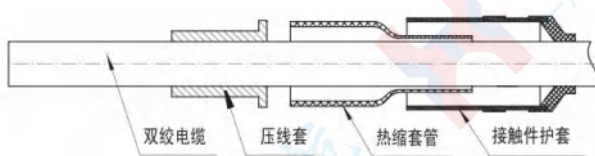

图1.2 将接触件护套和热缩套管套入电缆
- 1) Sequentially install the transparent heat shrink tube for stress relief, contact boot, and crimp sleeve (used for cable shield connection and inner core fixation) onto the cable, as shown in Figure 1.2;